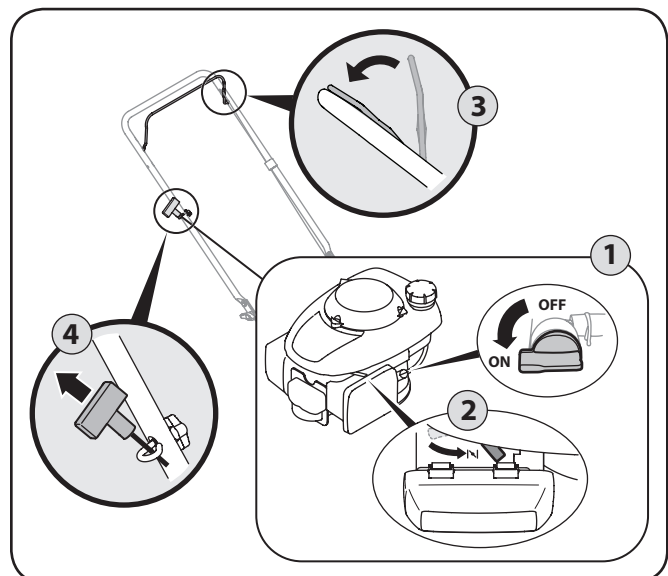

Figure 5-2
1. Place the fuel valve lever found on the left side of the engine into the ON (OPEN) position. See Figure 5-2.
4. Holding these two handles together firmly, grasp recoil starter handle and pull rope out with a rapid, continuous, full arm stroke. See Figure 5-2. Keeping a firm grip on the starter handle let the rope rewind slowly. Repeat until engine cranks. Let the rope rewind each time slowly.